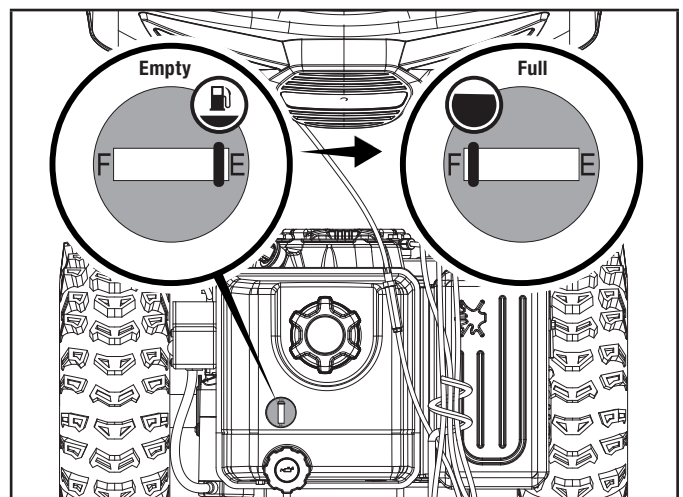

Figure 9
3. The approximate fuel level is shown on the fuel gauge on top of the fuel tank. Wipe up spilled fuel before starting the snowblower. Fuel tank capacity: 0.7 gal. (2.6 L) (Fig. 9).